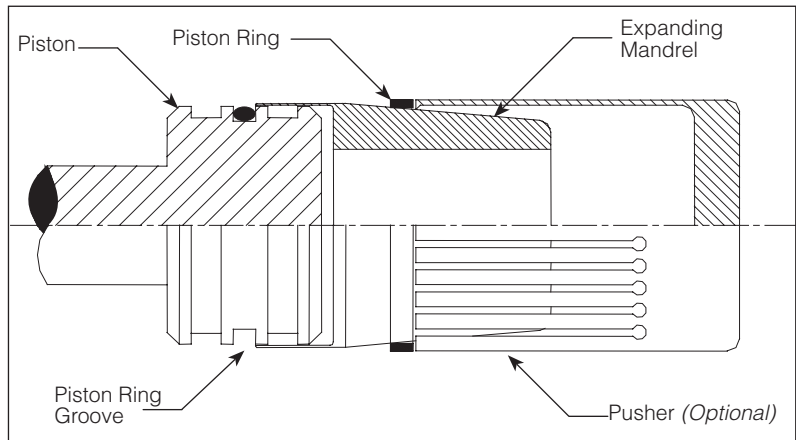

Figure 2-18. Installation of piston seal with tooling
4. Place the seal onto the expanding mandrel, and using the pusher (optional), gently push the seal up the ramp until it snaps into place (Figure 2-18).